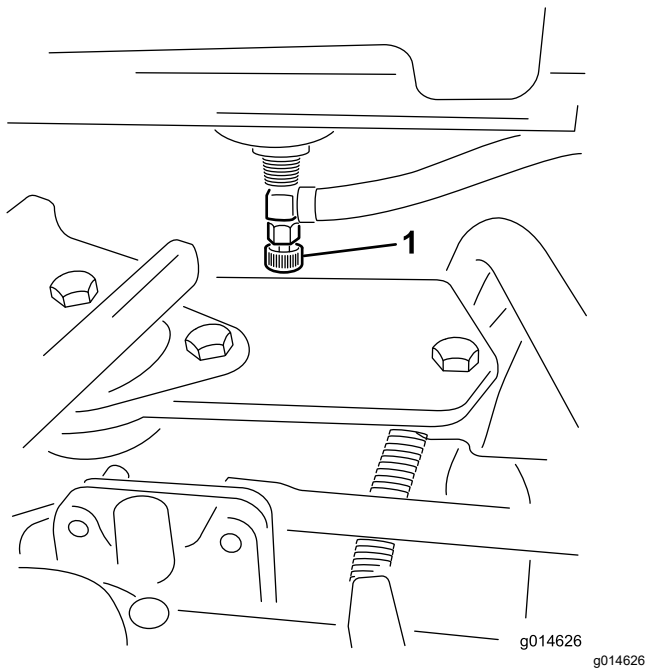

Figure 34
1. Close the fuel-shutoff valve (Figure 34) below the fuel tank.